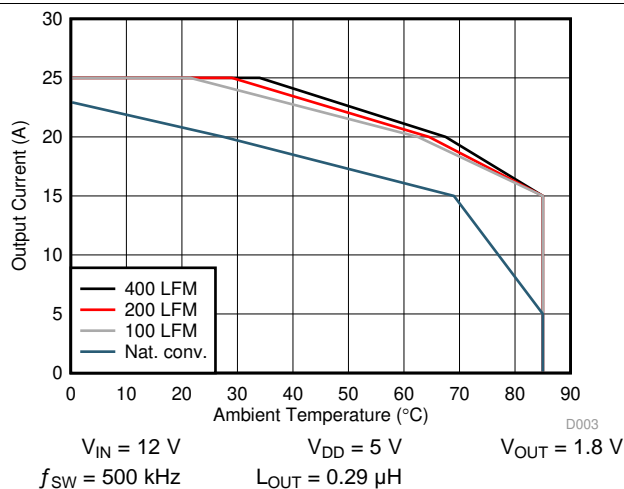

Figure 3. Safe Operating Area – PCB Horizontal Mount (1)
The SOA curves in the CSD97374Q4M data sheet give engineers guidance on the temperature boundaries within an operating system by incorporating the thermal resistance and system power loss. Figure 3 and Figure 4 outline the temperature and airflow conditions required for a given load current. The area under the curve dictates the safe operating area. All the curves are based on measurements made on a PCB design with dimensions of 4 in (W)  $\times$  3.5 in (L)  $\times$  0.062 in (T) and 6 copper layers of 1-oz copper thickness.